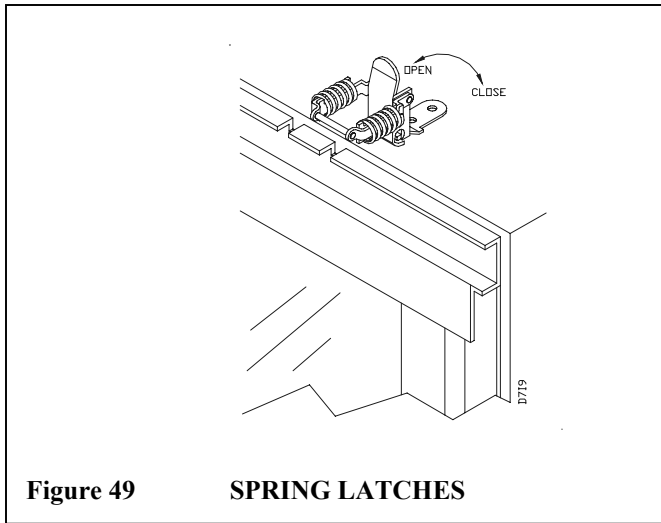

Figure 49 SPRING LATCHES
3. To open the glass door, undo the latches located on the top and bottom side of the firebox, (see figure 49). Then carefully swing the door to the left. The glass door is securely mounted to the firebox by means of five screws.
1. Remove the top and bottom louvers and the screen assembly (Refer to figure 38). Undo the four door latches (Refer to figure 49). The procedure for removing the end louver panel is the same. However, the entire frame must be removed as one assembly.